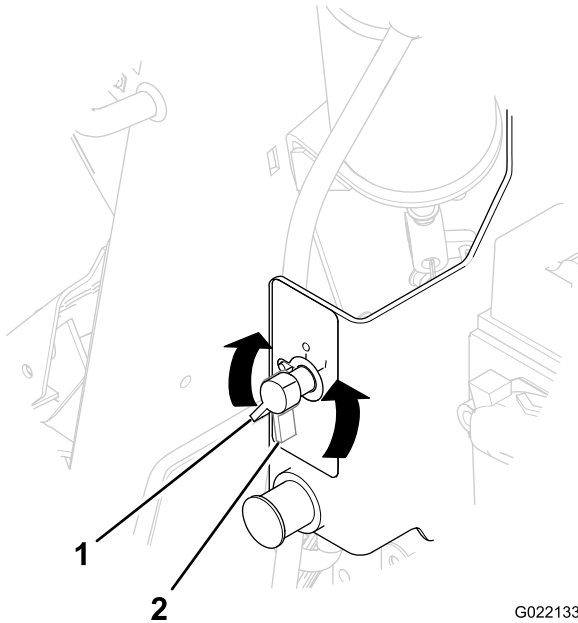

Figure 60
2. Rotate the battery-disconnect switch counterclockwise to the Off position (Figure 60).